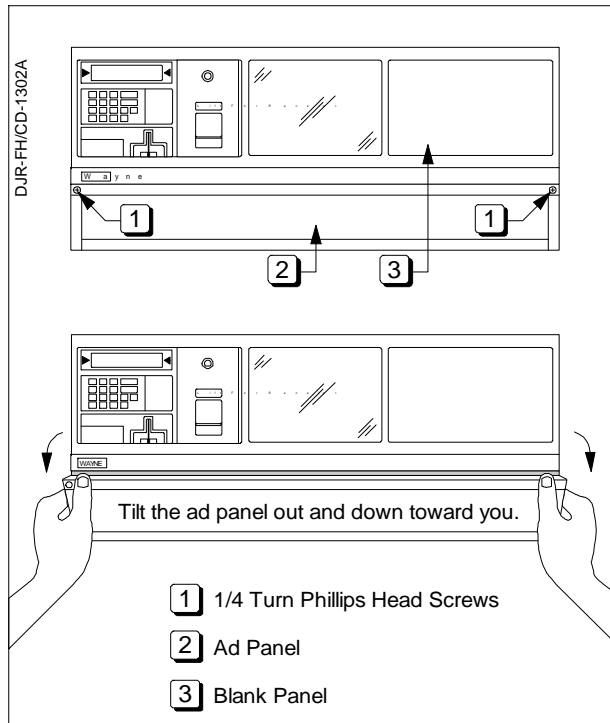

Figure 2-1 Removing the Ad Panel
- Disengage the advertisement (ad) panels. Unsnap the ad panel by pulling forward firmly on the top edge of the panel. Refer to Figure 2-1.